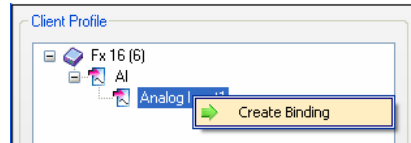

Figure 50: Creating a Binding
6. Right-click on the desired property to share and select Create Binding (Figure 50). The Bindings Window is populated with the Client Object and the Server Device.